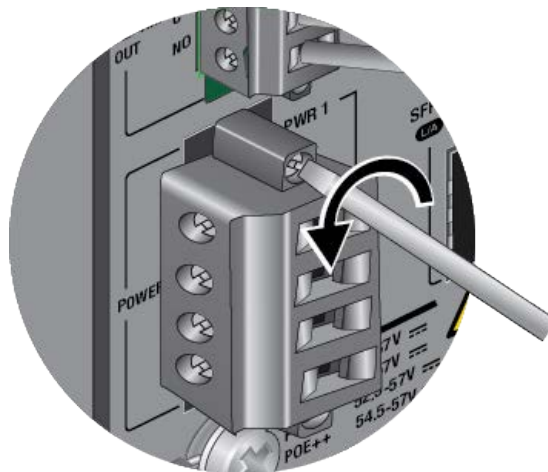

Figure 49. Loosening the Two Captive Screws on the DC input Plug
3. Loosen the two captive screws on the DC input plug. Refer to Figure 49.